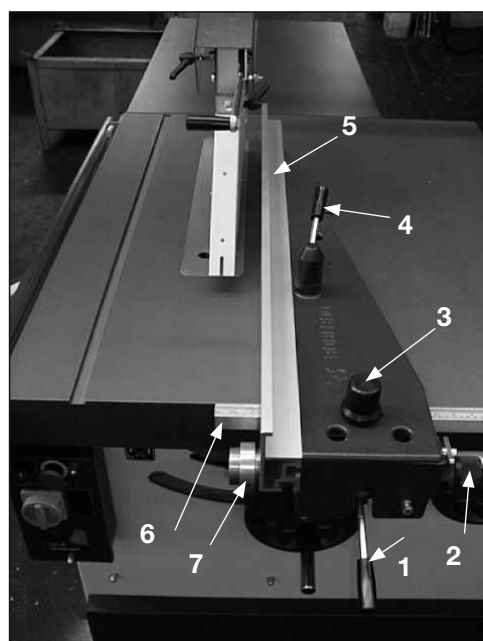

Fig.14
Simply unlock the clamping handle (4) on top of the casting and slide off the fence, and set the fence back in the low position as shown in fig 14 bis.
## Calibration of the scale on the fence (Fig.14)